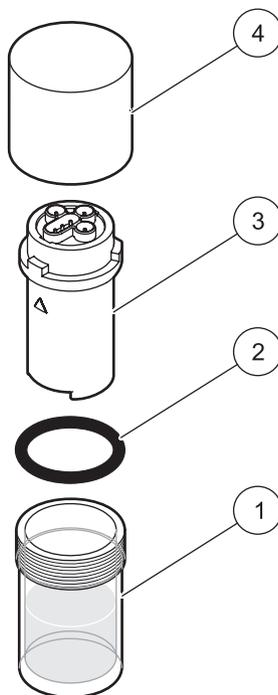

Figure 6 Storage container for sensor cartridge¹
2. Remove the cap of the storage container (see Figure 6 on page 11).